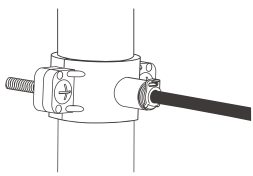

Figure 8
4. Fix the drain saddle with screws and install the lock clip on the fitting to secure the connection(Figure 8);